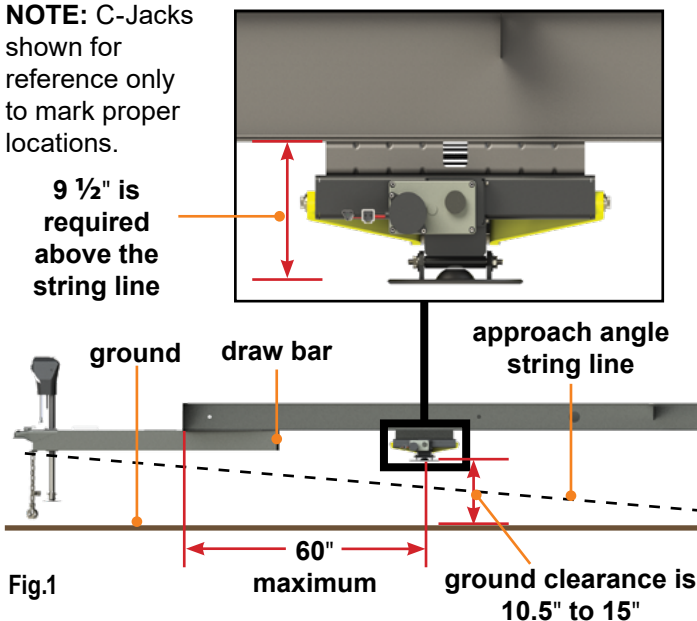

Fig.1
Departure and approach angles are measured by running a string line from the meeting point of the tire and ground up at an angle to the lowest point on the front or rear of the trailer. These string lines are shown as dotted lines (Fig.1).
NOTE: Measure from the front of the frame and make a mark at 60". This will be the maximum allowable distance for the location of the center of the C-Jack foot pad. The final location should be as close to the draw bar as possible, staying within the approach angle (Fig.1).
NOTE: Measure from the center of the rear axle hanger to the center of the rear C-Jack foot pad. The minimum allowable distance is 18" and the maximum is 48", staying within the departure angle (Fig.1).
2. Measure from the center of the rear axle hanger (Fig.2A) and make a mark on the I-beam at 18" (Fig.2B) and at 48" (not shown) for the minimum and maximum distance. Align the center of the I-beam mounting bracket between the 18" mark and the 48" mark, staying within the departure angle (Fig.1). Ensure the bracket lip (Fig.2C) is flush with the outside lip of the I-beam.
2. Measure from the front of the frame and make a mark at 60". This will be the maximum allowable distance for the location of the center of the C-Jack foot pad. The final location should be as close to the draw bar as possible, staying within the approach angle (**Fig.1**). Ensure the bracket lip (similar to **Fig.2C**) is flush with the outside lip of the I-beam.